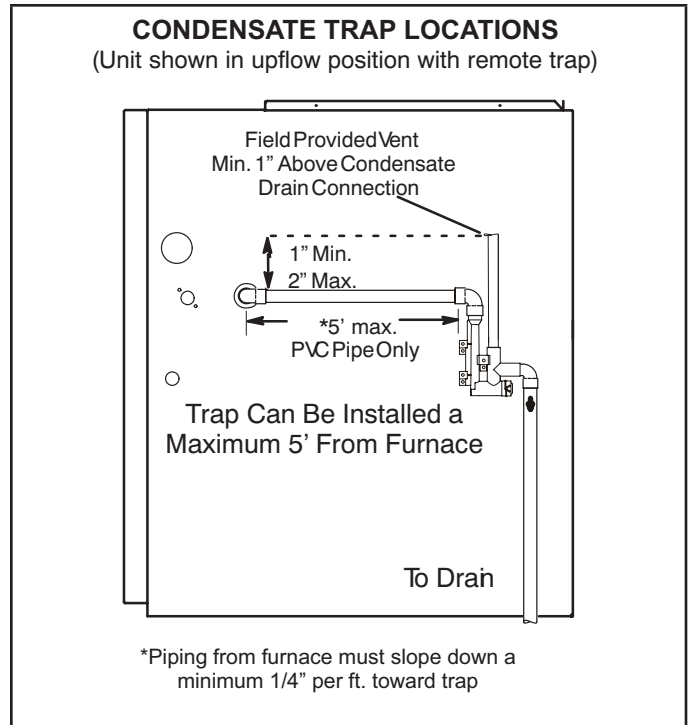

FIGURE 45
- 2 - Use a large flat head screw driver or a 1/2" drive socket extension and remove plug (Figure 45) from the cold end header box at the appropriate location on the side of the unit. Install provided 3/4 NPT street elbow fitting into cold end header box. Use Teflon tape or appropriate pipe dope.